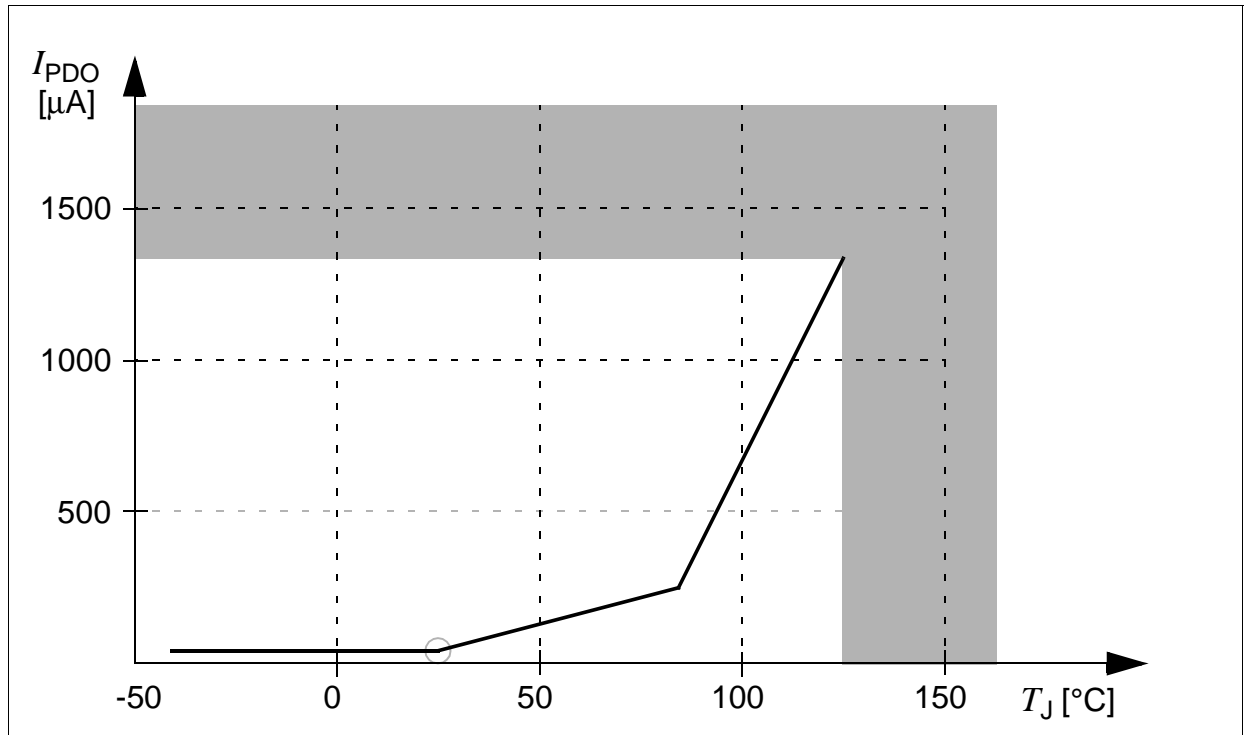

Figure 11 Sleep and Power Down Supply Current as a Function of Temperature
- ⁴⁾ This parameter is determined mainly by the transistor leakage currents. This current heavily depends on the junction temperature (see Figure 11). The junction temperature T_J is the same as the ambient temperature T_A if no current flows through the port output drivers. Otherwise, the resulting temperature difference must be taken into account.